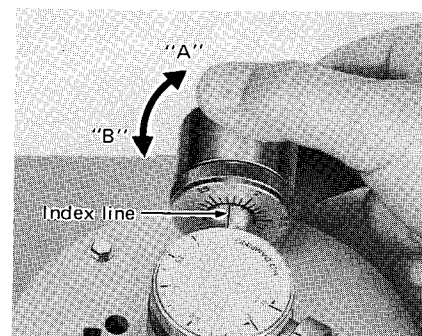

Fig. 20
10. Turn the counterweight in the B direction until the "1.75" mark on the dial is aligned with the index line. The "1.75" mark means an optimum tracking force of 1.75 g is being applied. (See Fig. 20)